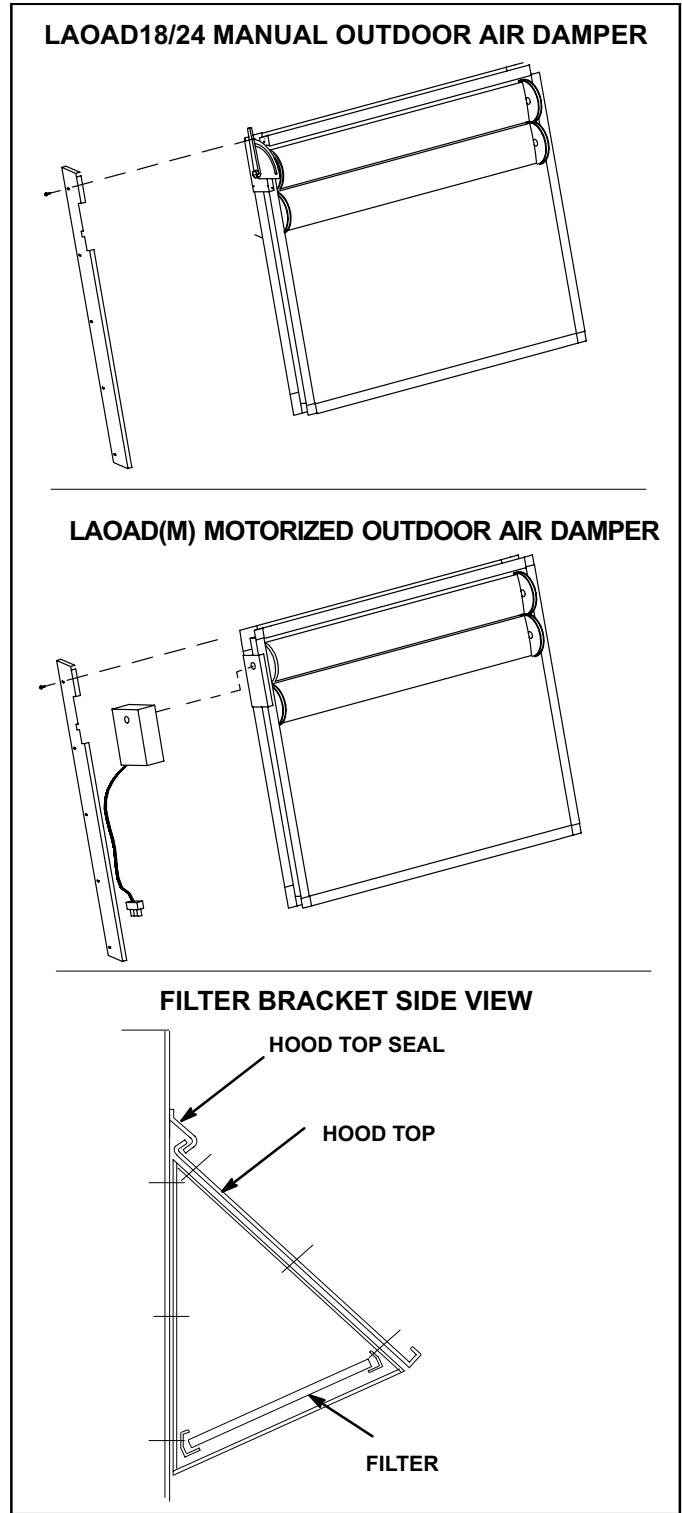

FIGURE 34
LAOD(M)18/24 consists of a set of dampers which may be manually or motor (M) operated to allow up to 25 percent outside air into the system at all times (see figure 34). Both air dampers can be installed in LGA / LHA / LCA units. Washable filter supplied with the outdoor air dampers can be cleaned with water and a mild detergent. It should be sprayed with Filter Handicoater when dry prior to reinstallation. Filter Handicoater is R.P. Products coating no. 418 and is available as Lennox Part No. P-8-5069.